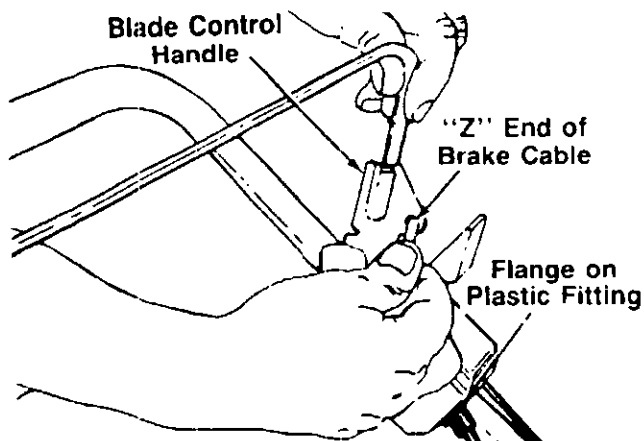

FIGURE 4
3. Hook the "Z" end of the brake cable into the hole in the blade control handle from the inside to the outside as shown in figure 4.